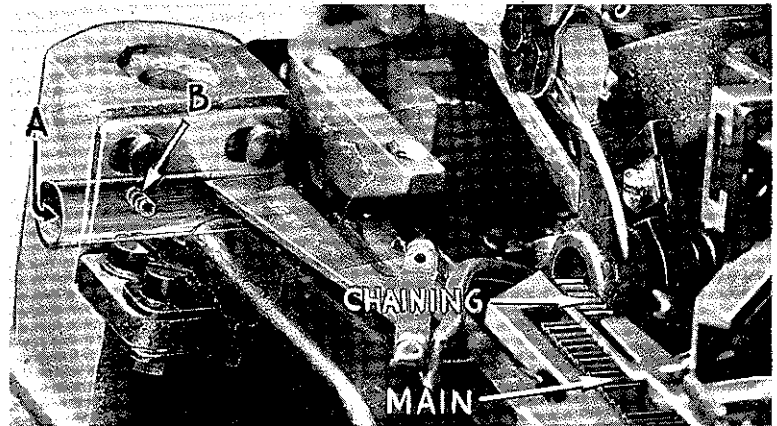

Fig. 11
Feed dogs should be leveled with throat plate surface by rotating feed tilting adjusting pin (A, Fig. 11). This pin raises or lowers the back end of feed bar. Feed dogs should be set level at the time teeth first appear above throat plate. Screw (B) locks feed tilting adjusting pin in place. Now set feed dogs at highest point of travel: main feed dog teeth should be set  $3/64$  inch above throat plate and chaining feed dog teeth should be set about flush with surface of throat plate.